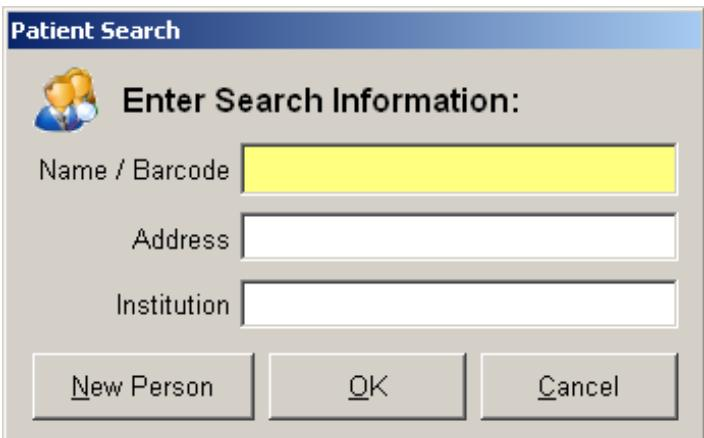

Figure 386
2. Search for the person's name, then press <Enter> (see Figure 386).